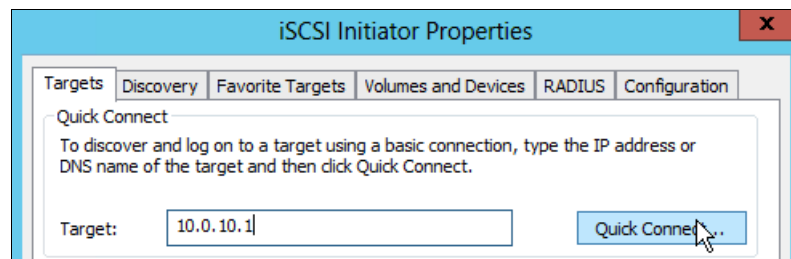

Figure 5-45 Connecting to the IBM Storwize V3700 iSCSI ports
2. While in the iSCSI Initiator properties, log on to an IBM Storwize V3700 iSCSI port by typing the port Internet Protocol (IP) address into the Target box and clicking **Quick Connect**, as shown in Figure 5-45.